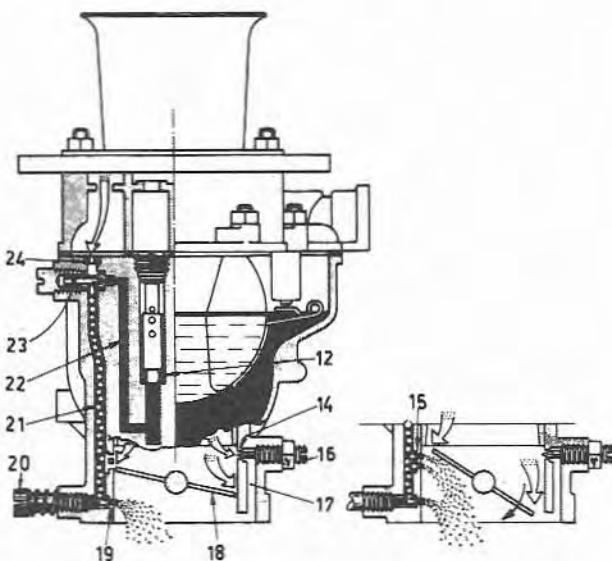

Fig. 8.4 Idling and progression phase (triple choke types) (Sec 3)
Refer to Fig. 8.4 and note that when the engine is idling with the throttle valves (18) closed, fuel is drawn from the emulsion tube wells (12), along the channel (22) to the idling jets (23) where it becomes emulsified with air entering through the calibrated orifices (24). The mixture then passes through the channel (21), past the mixture screws (20), through the idling feed holes (19) and into the carburetor throats at the engine side of the throttle valves. The idling mixture screws (20) have tapered ends and can be adjusted to admit more or less mixture as necessary.